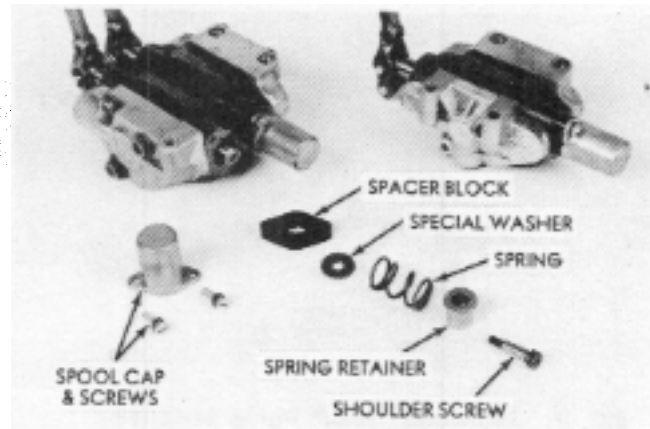

FIG. 5A. Spool Cap & Valve Disassembly
2. Remove the parts shown in Fig. 5A or 5B, as applicable.